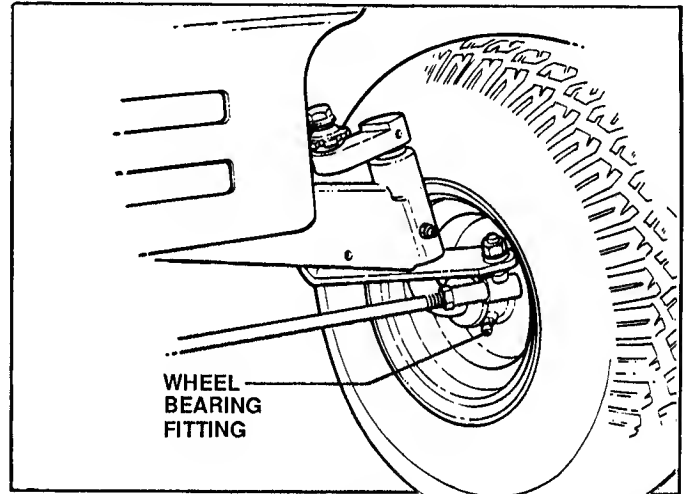

FIGURE 13
- **FRONT WHEEL BEARINGS:** Lubricate bearings through the fitting on hub of each front wheel. See Figure 13.